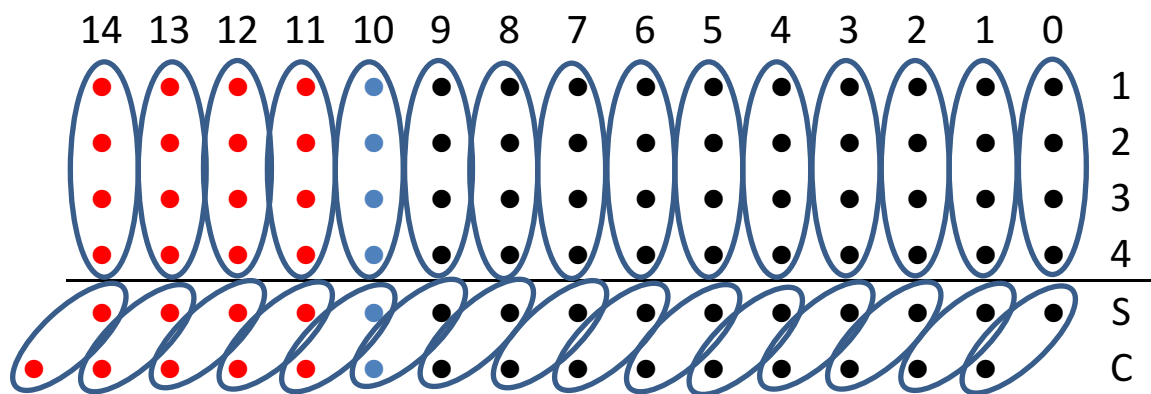
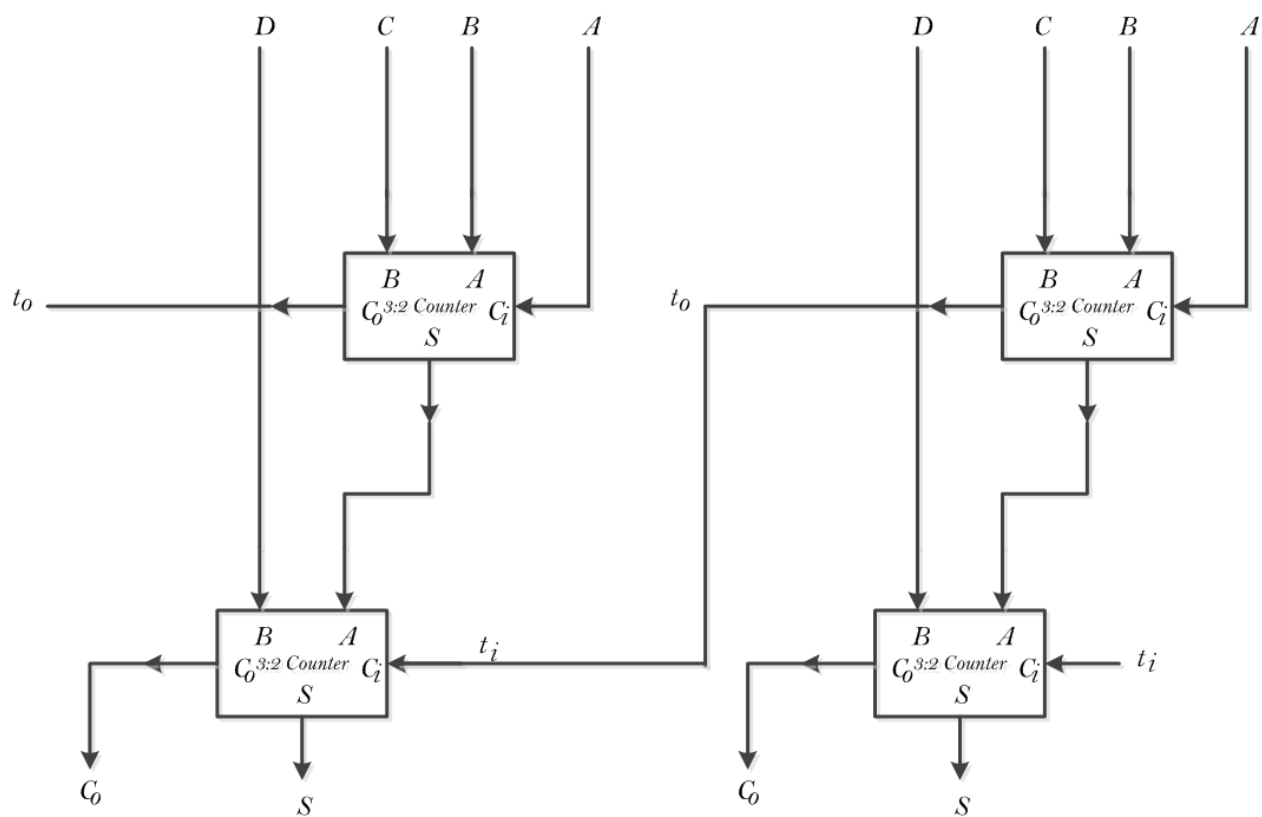

Figure 2 14 bits 4:2 carry save adder
Figure 3 4:2 Counter
Implement the carry save adder circuit shown in Figure 2 14 bits 4:2 carry save adder. Build a project using ISE that implement this circuit. The 4:2 counter is composed of two full adders as shown in Figure 3. Reuse the Full Adder component from LAB assignment 1 to build this circuit.
2. The system should add sign extension bits (Red dots in Figure 2).